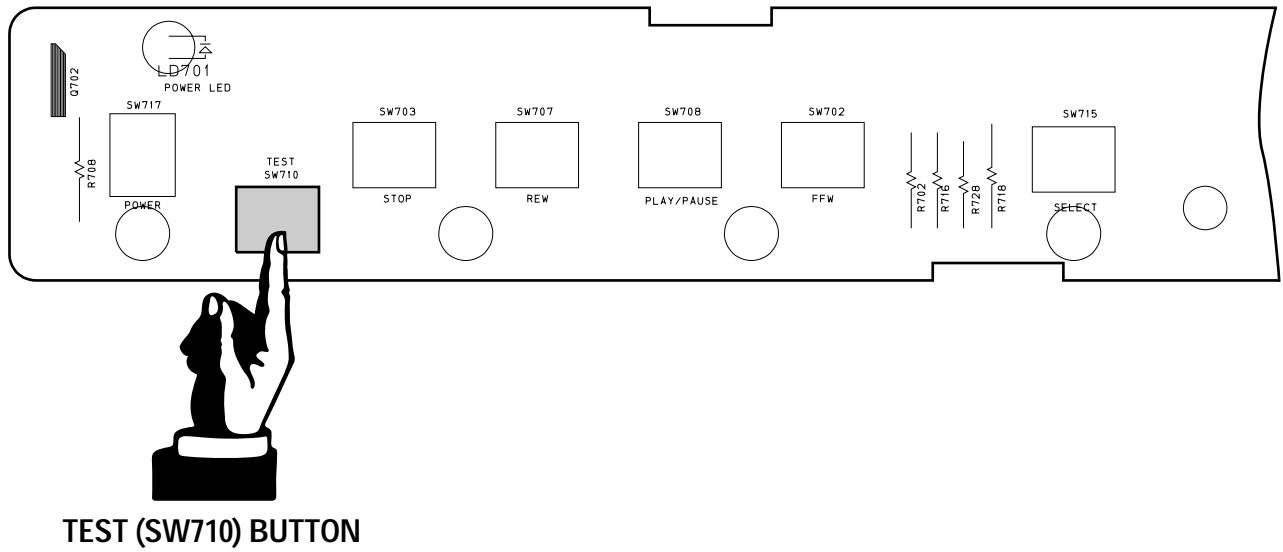

Fig. 4-2 Function-Timer PCB (Top View)
- 2) Press the “SW710 (TEST)” button on F/Timer PCB to set the adjustment mode. (See Fig. 4-2)
- 2) Press the “SW710 (TEST)” button on Function-Timer PCB to set the adjustment mode. (See Fig. 4-2)
- 1) Press the “SW710 (TEST)” button on Function-Timer PCB to set the adjustment mode. (See Fig. 4-2)